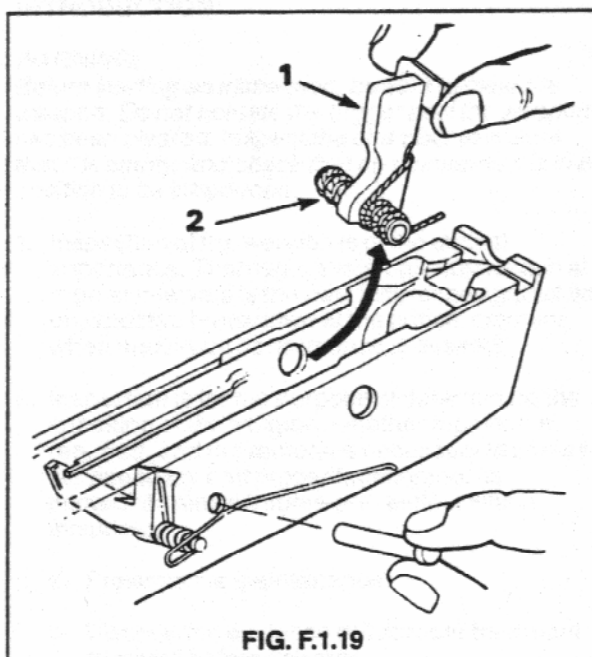

FIG. F.1.19
19. Remove the hammer complete with the hammer spring through the opening in the rear of the receiver. See Fig. F.1.19.